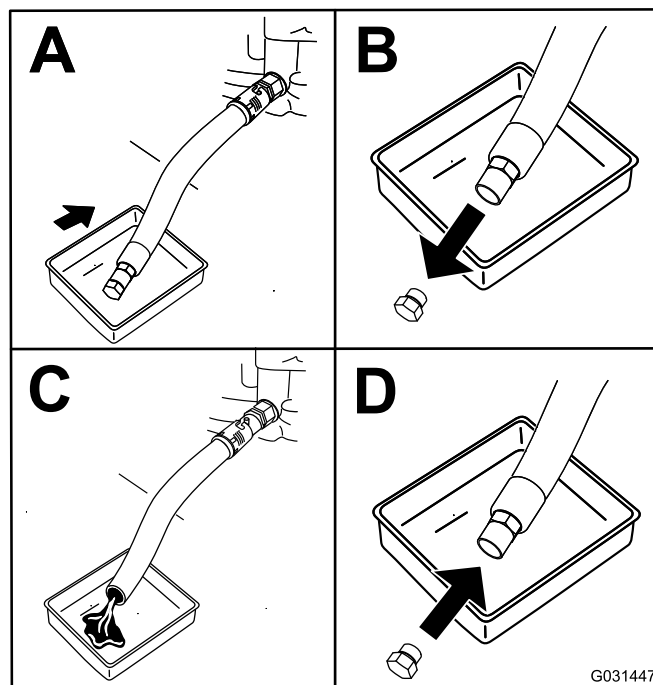

Figure 45
4. Change the engine oil as shown in Figure 45.